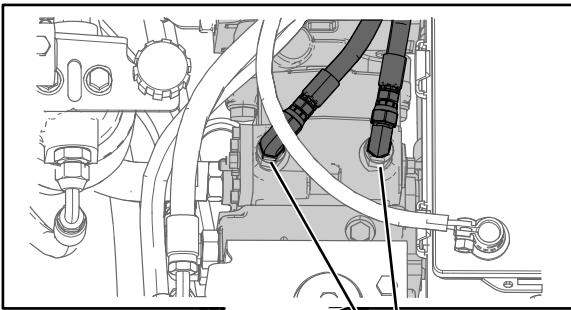

Figure 13
11. In the front of the machine, remove the 2 hoses on the tandem pump and install them to the opposite ports (Figure 13). Torque the fittings to 24 to 30 N·m (18 to 22 ft-lb).